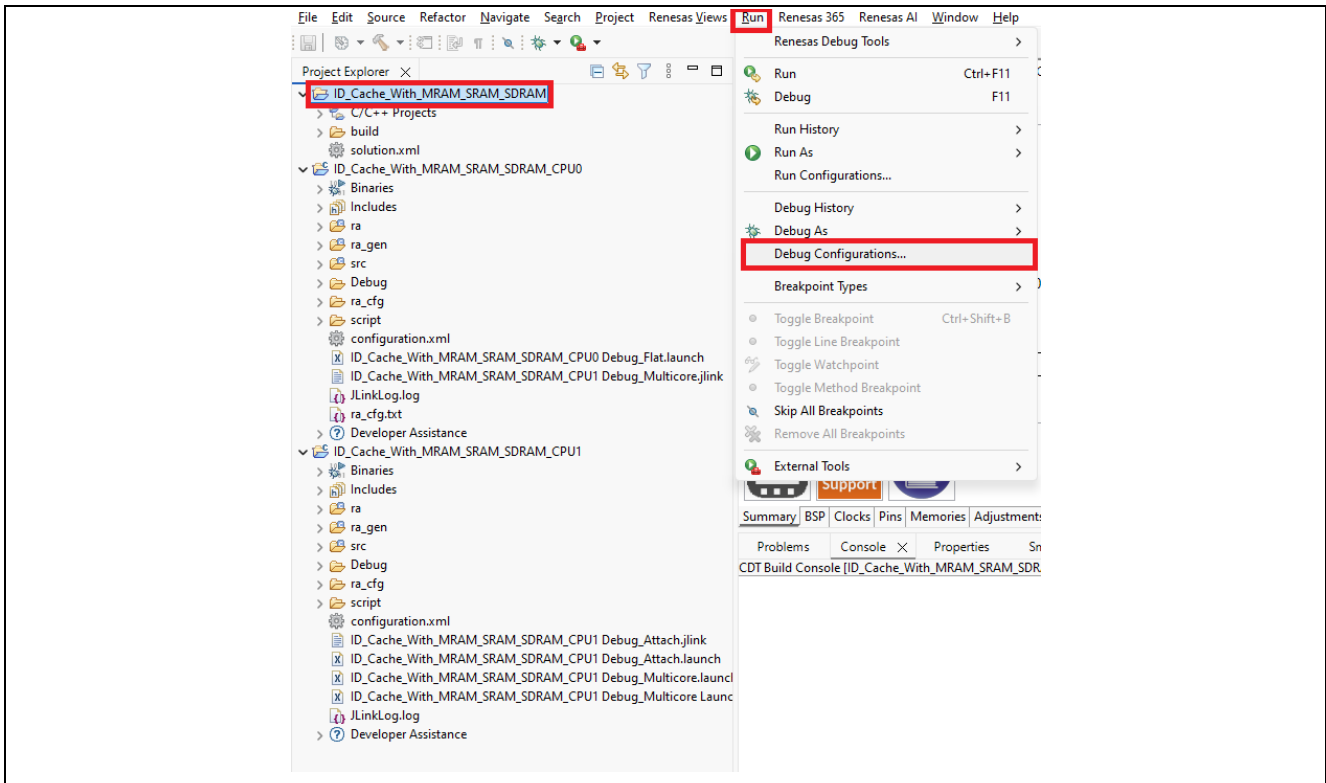

Figure 14. Open Debug Configuration
3. Open Debug Configurations as shown in Figure 14.